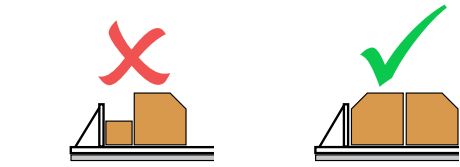

Fig.3.4: Use 100 × 100mm hardwood dunnage as a spacer to reduce rack size, i.e. 810mm down to 710mm. Chamfered dunnage is acceptable.
- DO NOT** use thin or short pieces if doubling up dunnage in coil racks to reduce the rack size. Use only full width 100 × 100mm dunnage. Chamfered dunnage can be used. (Fig.3.4)